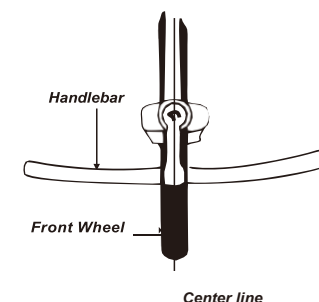

fig.10 Handlebar and Handlebar Stem Assembly
- 2) Align the handlebar stem with the front wheel(see fig.10). Tighten securely the expender bolt with an adjustable wrench.
- 6) Be sure that your handlebar and stem assemblies are properly tight before riding. The handlebar should not rotate in the stem. When you straddle and grip the front wheel between your knees, the handlebar should not be able to turn when you apply pressure horizontally. Refer to (fig. 10)